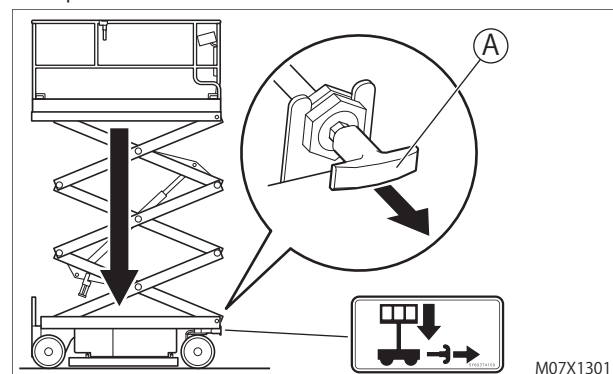

fig. 9-3
- (1) The emergency lowering handle is located at the front side of the machine (fig. 9-3, A). Pull the handle outward and lower the platform.